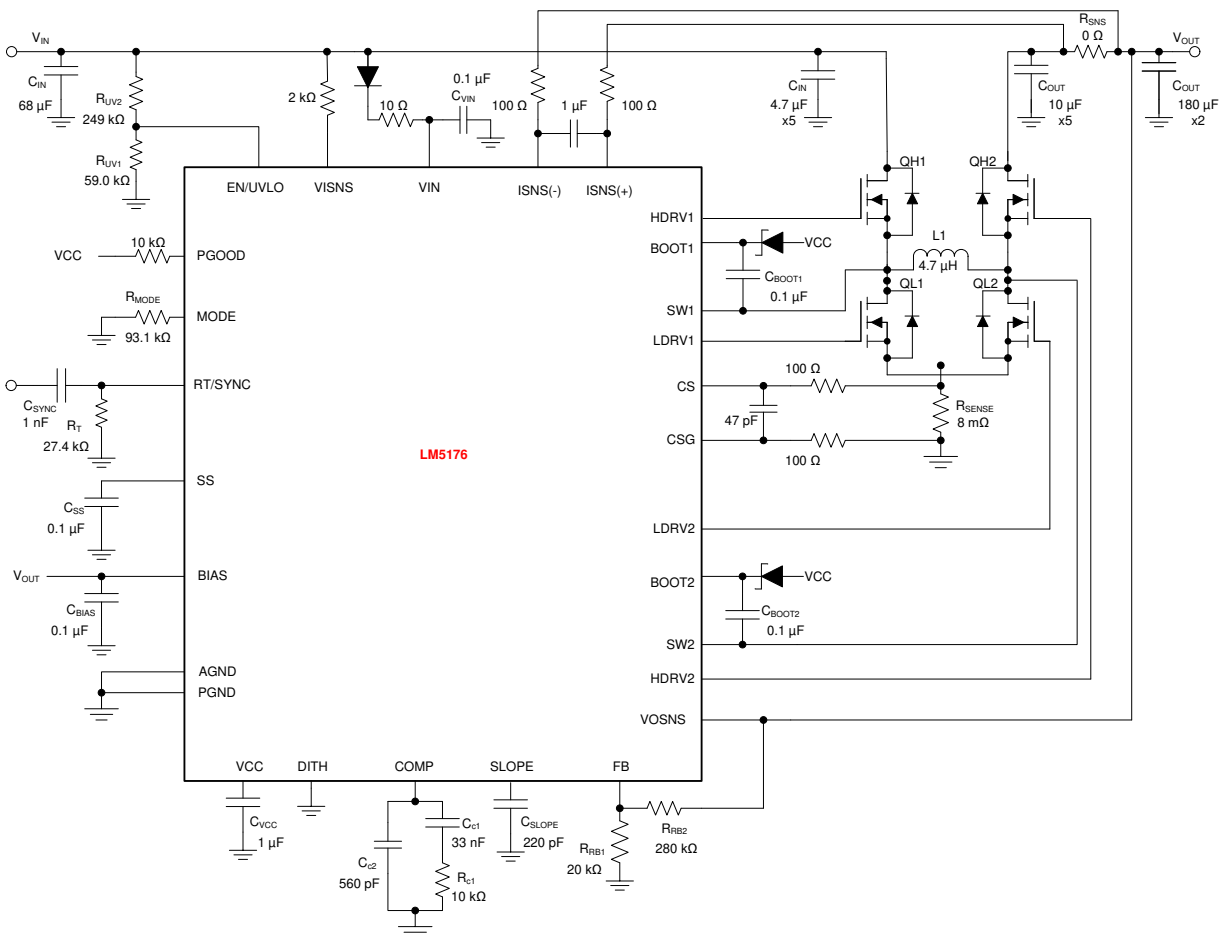

图 8-1. LM5176 Four-Switch Buck Boost Application Schematic
A filter network as shown in Figure 8-1 is often used across the ISNS(+) and ISNS(-) pins to filter the ripple in the average current sense signal.
For application where input voltage is higher than 40 V, a 2-k Ω resistor in series with the VISNS pin is required as shown in Figure 8-1.
The LM5176 has a gm error amplifier for loop compensation. The gm amplifier output (COMP) range is 0.3 V to 3 V. Connect an R_{C1} - C_{C1} compensation network between COMP and ground for type II (PI) compensation (see 图 8-1). Another pole is usually added using C_{C2} to suppress higher frequency noise and switching frequency ripple.
The low-side gate drivers are powered from VCC and the high-side gate drivers HDRV1 and HDRV2 are powered from bootstrap capacitors C_{BOOT1} (between BOOT1 and SW1) and C_{BOOT2} (between BOOT2 and SW2), respectively. The C_{BOOT1} and C_{BOOT2} capacitors are charged through external Schottky diodes connected to the VCC pin as shown in 图 8-1.
Typically, a combination of ceramic and bulk capacitors is needed to provide low ESR and high ripple current capacity. The complete schematic in 图 8-1 shows a good starting point for C_{OUT} for typical applications.
The maximum RMS current occurs at $D = 0.5$, which gives $I_{\text{CIN(RMS)}} = I_{\text{OUT}} / 2 = 3 \text{ A}$. A combination of ceramic and bulk capacitors should be used to provide a short path for high di/dt current and to reduce the output voltage ripple. The complete schematic in 图 8-1 is a good starting point for C_{IN} for typical applications.
For some application circuits, it can be required to add a filter network to attenuate noise in the CS and CSG sense lines. See 图 8-1 for typical values. The filter resistance should not exceed $100 \text{ }\Omega$.